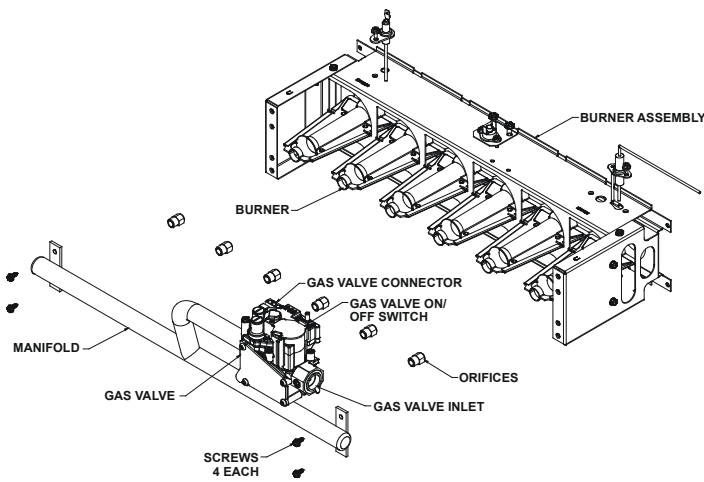

FIG. 2 Burner Orifices Replacement
8. Remove 4 sheet metal screws that fasten the manifold/gas valve assembly to the burner box. See Figure 2.